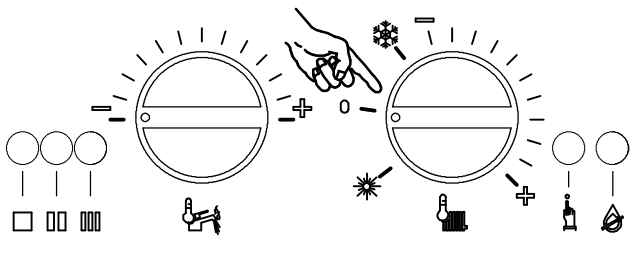

Fig. 59
- 1 Set the function selector of the boiler in stand – by mode (Fig. 59).